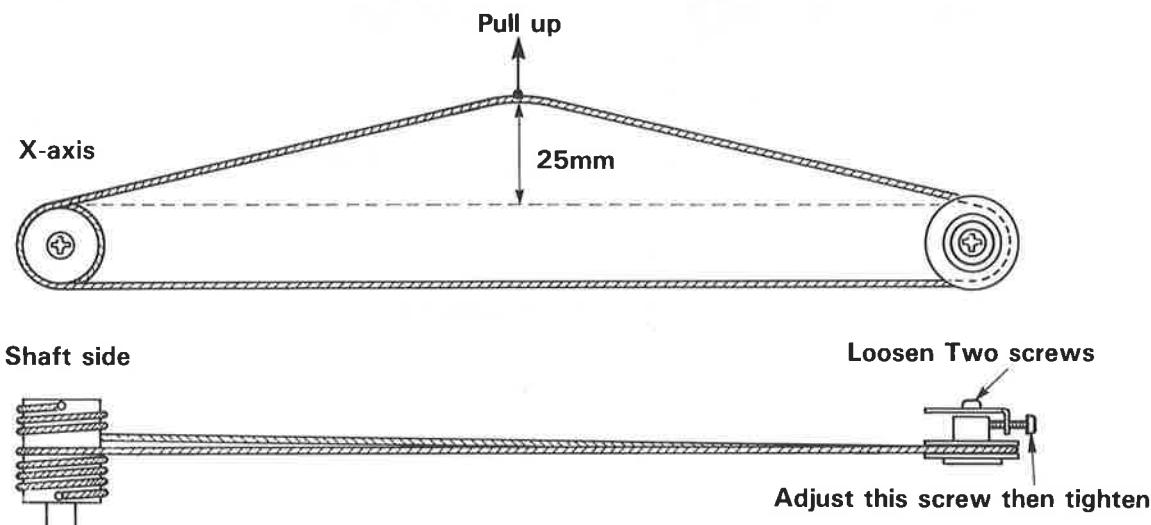

fig. 12-1
2). When pull the gauge up by 25 millimeter, an adequate tension is about 800 grammes in case of DPX-3300, 1100 grammes in case of DPX-2200. (see fig. 12-1)